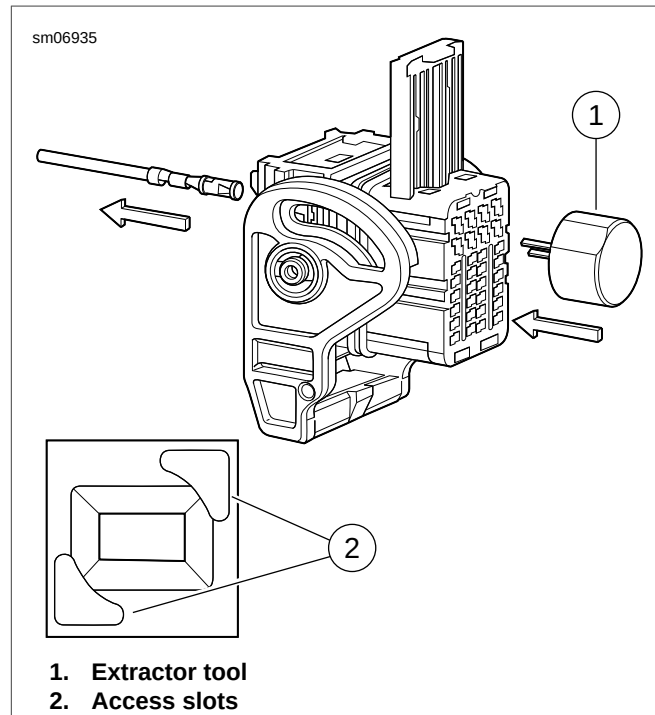

Figure A-42. Terminal Removal
7. See Figure A-42. Insert the pins of the CMC extractor tool (1) into the access slots (2) of the terminal cavity and retract the lead and terminal.